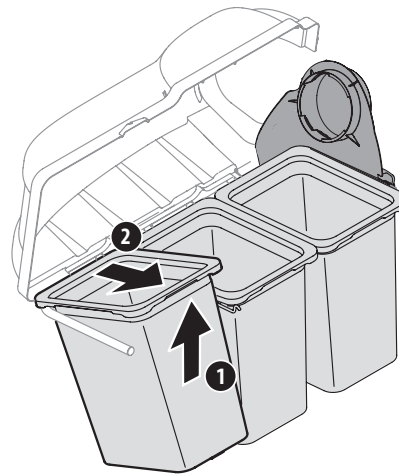

Figure 24
4. Remove the grass bags, as shown in Figure 24, by lifting each bag up (1) and moving the bags away from the bag support assembly (2).